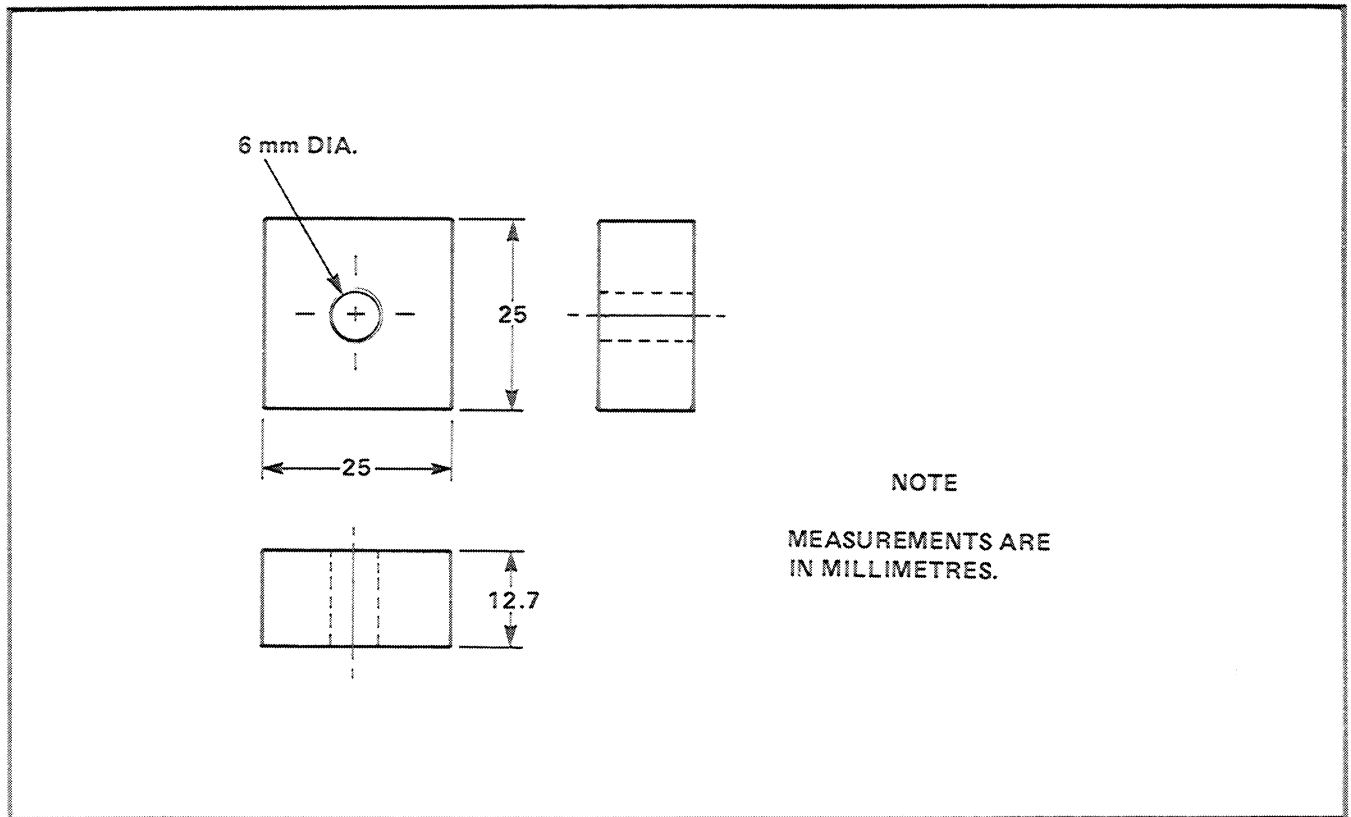

Figure 1 Dimension of Siren Spacer
8. To fabricate the two spacers required to mount the two sirens, use steel stock, NSN 9510-21-108-6577, or any 1/2-inch thick stock available locally. Figure 1 provides the dimensions required. Prime and paint the spacers using olive drab paint, prior to installation.